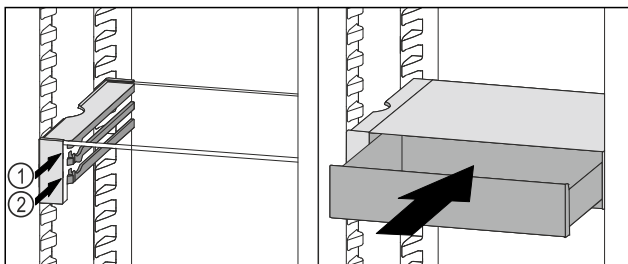

Fig. 105
- Place the VarioSafe drawer behind the stoppers on desired rib Fig. 105 (1) or Fig. 105 (2).